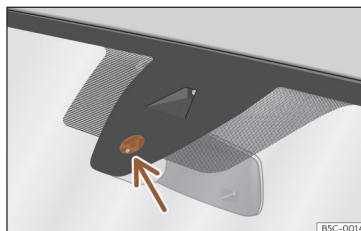

Fig. 107 Sensitive surface of the rain sensor.
The possible causes of anomalies and erroneous interpretations *in the sensitive surface area* >>> **Fig. 107** of the rain sensor are, among others:
- **Dirt:** dry dust, wax, coating on glass (Lotus effect) or traces of detergent (car wash) may reduce the effectiveness of the rain sensor or make it react more slowly, later or not at all. Regularly clean the sensitive surface of the rain sensor >>> **Fig. 107** (arrow) and check for possible damage to the wiper blades.